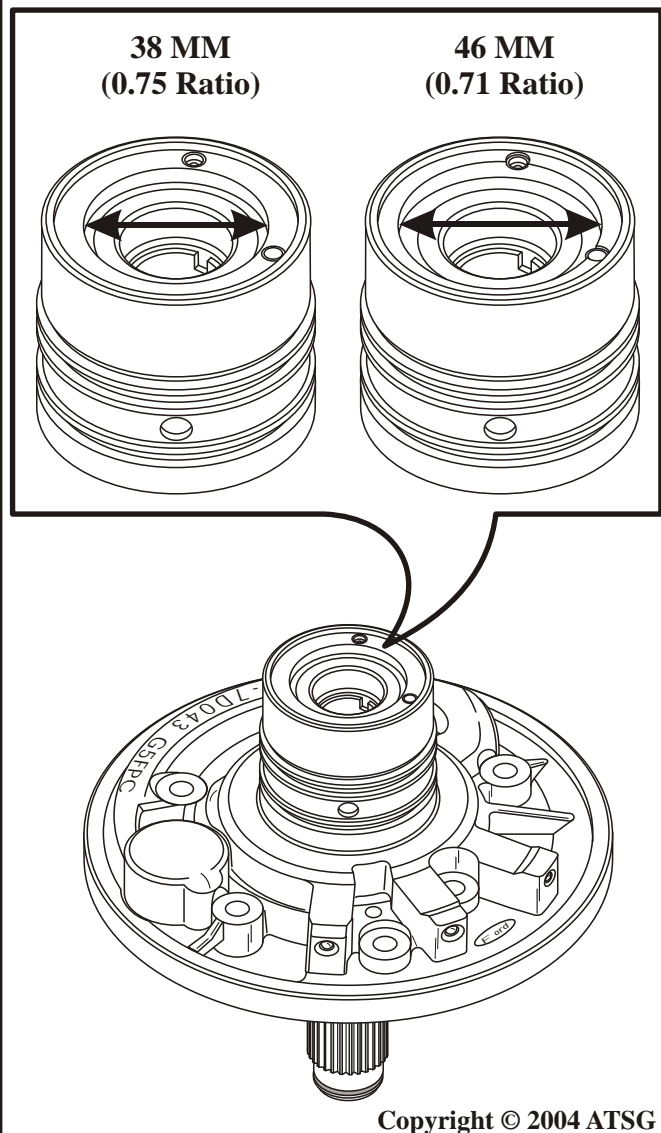

Figure 56
3. Inspect all oil pump parts thoroughly for any wear and/or damage. **Note: If replacement of pump support is necessary, see Figure 56.**